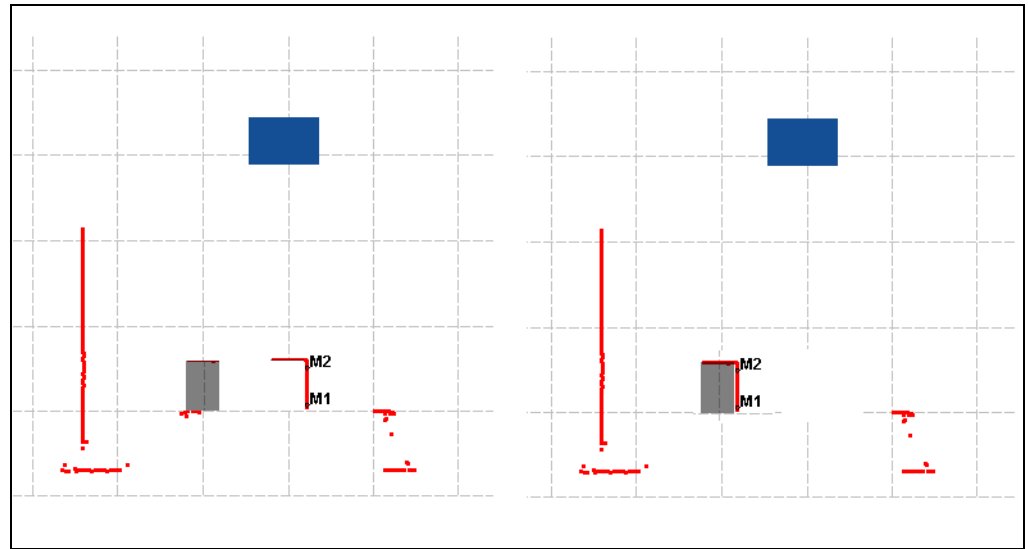

Fig. 28: Scanned test object
- Define on the scan line which part of the surrounding contour on the right side corresponds to the object. For this purpose position two marks using the right mouse button (see Fig. 28 part 1).
The assistant now wraps the scan line around the test object (see Fig. 28 part 2) and calculates the distance from the VMD to the zero point and therefore its Y coordinate.